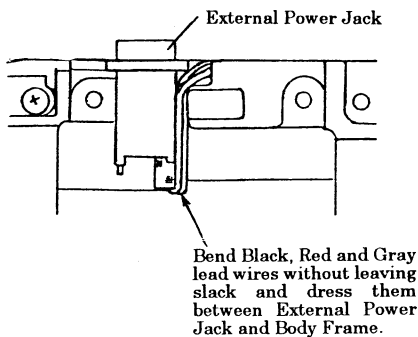

Fig.39
- Dress the Gray, Red and Black lead wires of the External Power Jack as shown in Fig. 39.